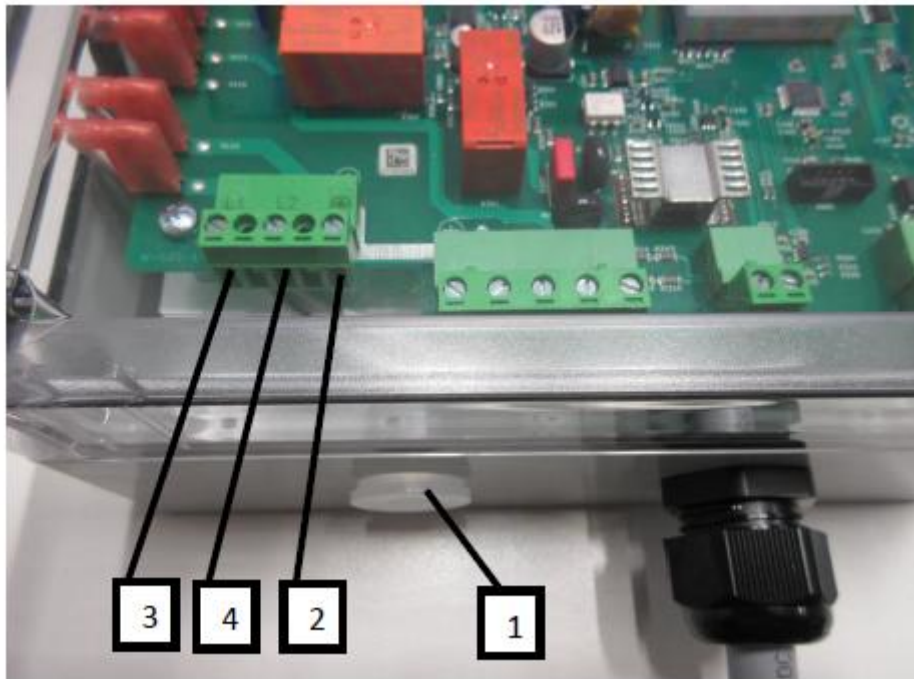

Fig. 6: Electrical connection on the box
- Connect the box with the conduit fitting on the correct provided hole (Fig. 6, position 1). Hole diameter Ø22.2 (G1/2" thread).
- Connect the grounding conductor first (Fig. 6, item 2)
After connecting the grounding conductor, connect two phases with the wire terminals (Fig. 6, item 3 and 4).